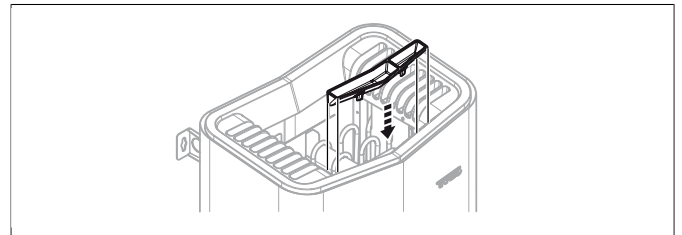

Figure 9: Fitting the fragrance holder/air humidifier
7. Attach the herb bowl/air humidifier (see **Figure 9**, Page 4).